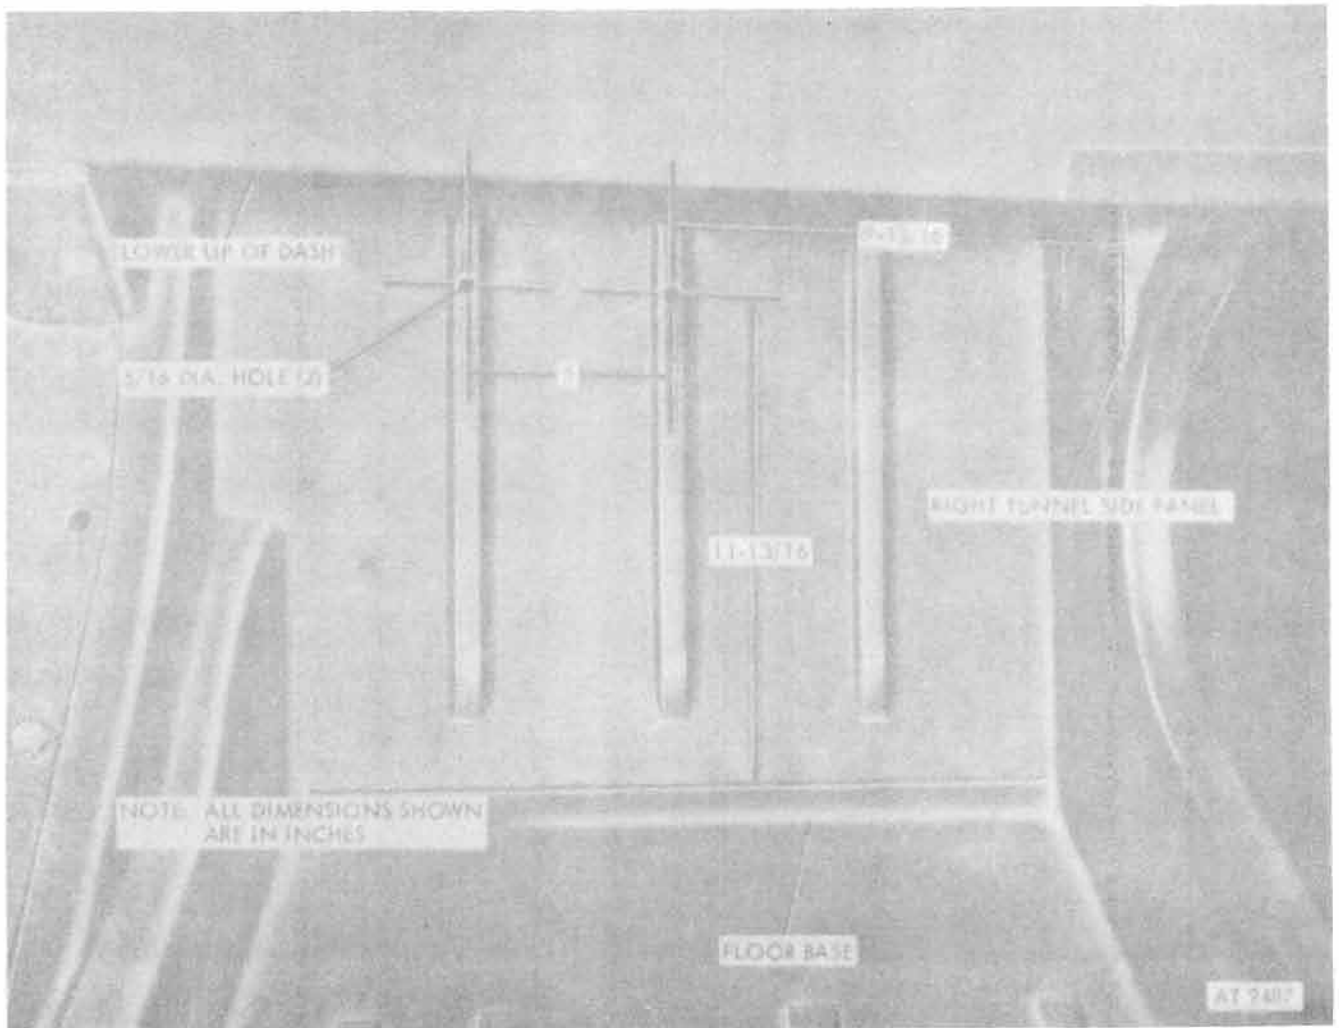

Figure 18-66. Right toeboard drilling.
f. Locate and drill two $5/16$ -inch diameter holes in toeboard (fig. 18-66).